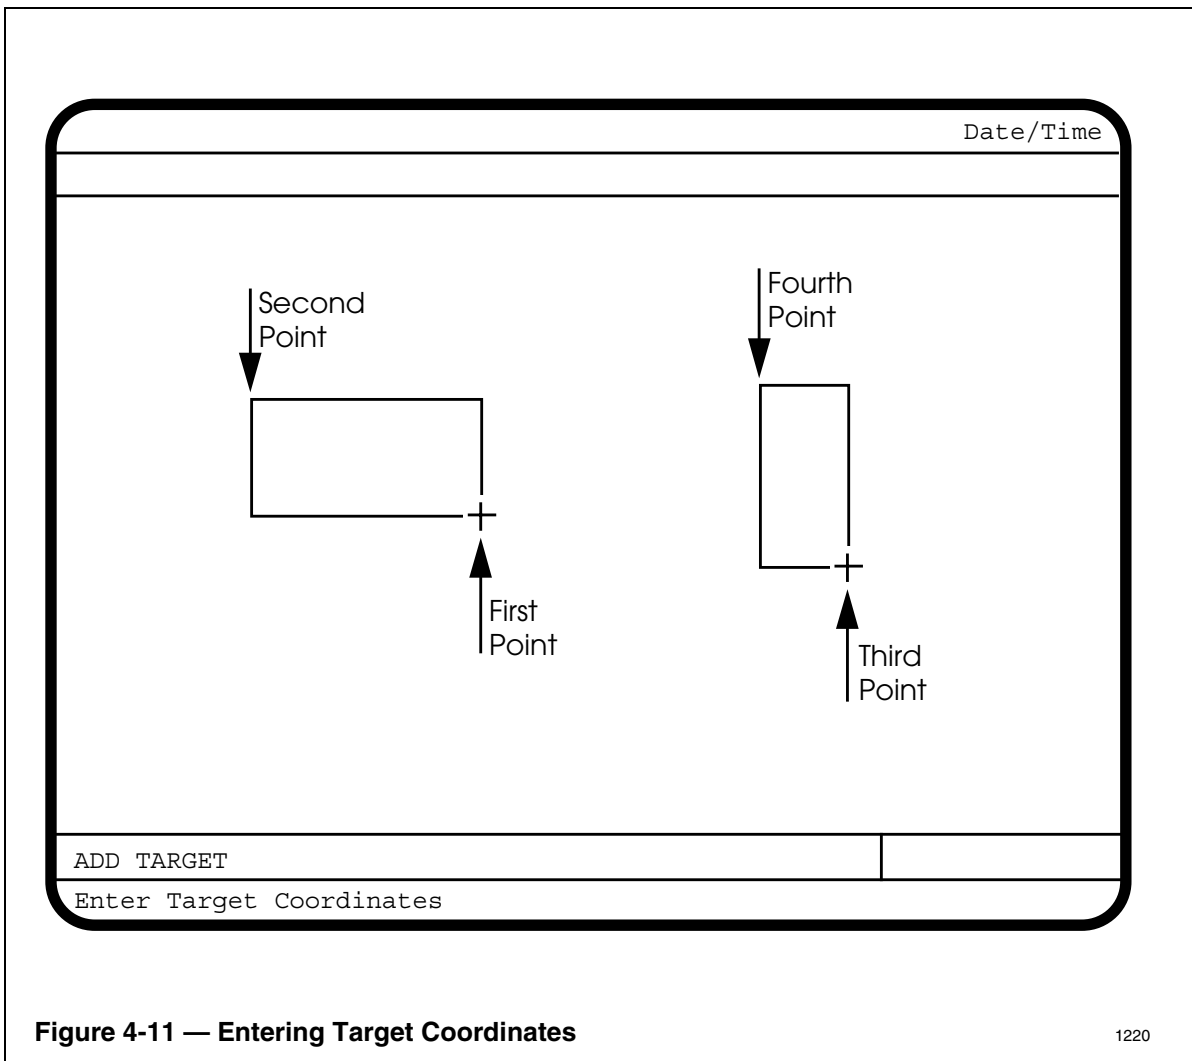

Figure 4-11 — Entering Target Coordinates
Targets are boxes in the display that cause some action when activated—usually by touching the screen at that point. Targets are indicated by T- keys on the display drawing. Invoking the Add Target command causes the Picture Editor to prompt for target coordinates. Use the touch screen, or the cursor/SELECT key to specify two coordinate points for each target. The Picture Editor draws a box that includes the points (see Figure 4-11). Targets should not overlap. All targets can be entered with a single command. Once the coordinate pairs have all been entered, the Picture Editor presents a screen form for each target. Refer to the Target (T) Form and enter information as listed for each target. Invisible targets are shown as hollow rectangles during the Picture Editor session but are invisible at operating time. Note that targets always have a text size attribute of large.